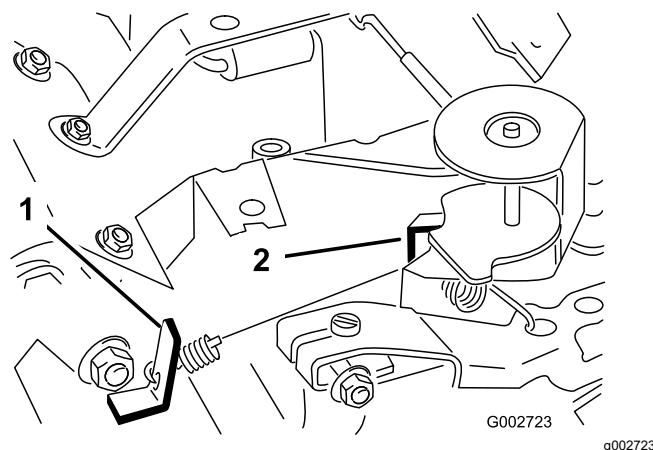

Figure 39
3. Bend the governed idle spring anchor tang (Figure 39) to attain an idle speed of 1725 ± 50 rpm.
6. Bend the high-speed spring anchor tang (Figure 39) to attain a high speed of 3400 ± 50 rpm.